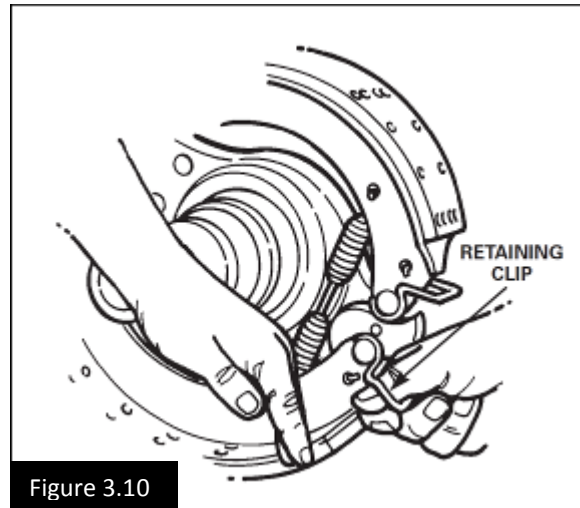

Figure 3.10
1. Push down on the bottom brake shoe and pull on the roller retaining clip to remove the bottom cam roller. Figure 3.10